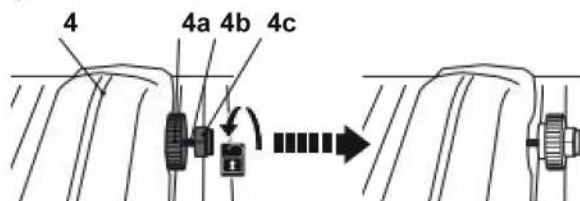

Fig. 22
- > Loosen the locking knob (4a) by turning it anti-clockwise until it touches the nut (4c) (fig. 22).